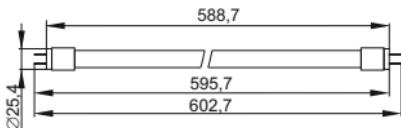

Рисунок 1 – Лампа Led Tube T8, 9 Вт, цоколь G13 / Figure 1 – LED-T8 lamp, 9 W, G13 lamp base
- 2.3 The overall dimensions of the lamps are shown in the figures 1–18.